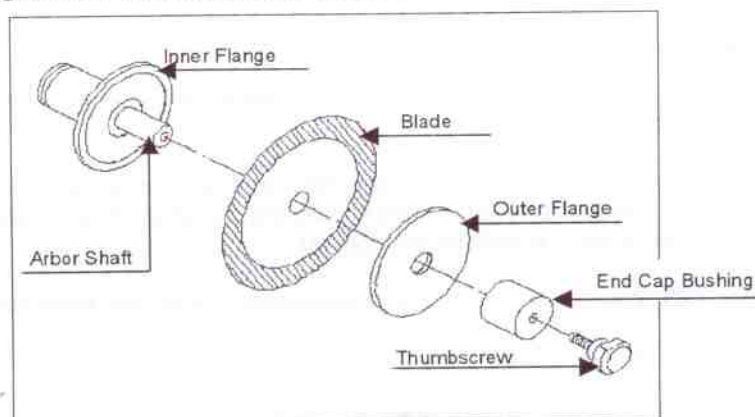

Figure 2 Blade Installation
1. Remove the thumbscrew, end cap bushing, and outer flange from the arbor shaft (see **Figure 2**).